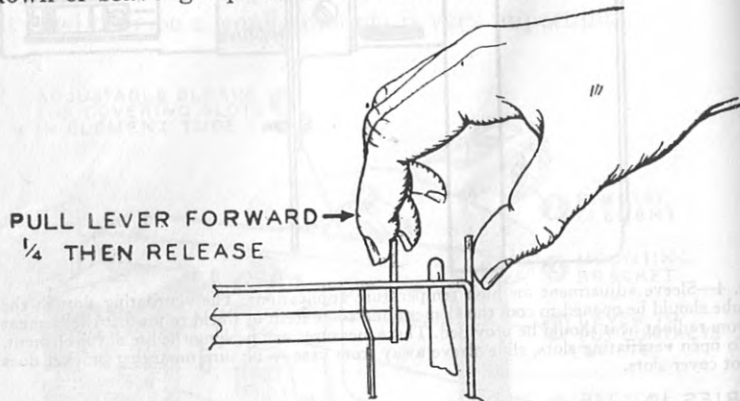
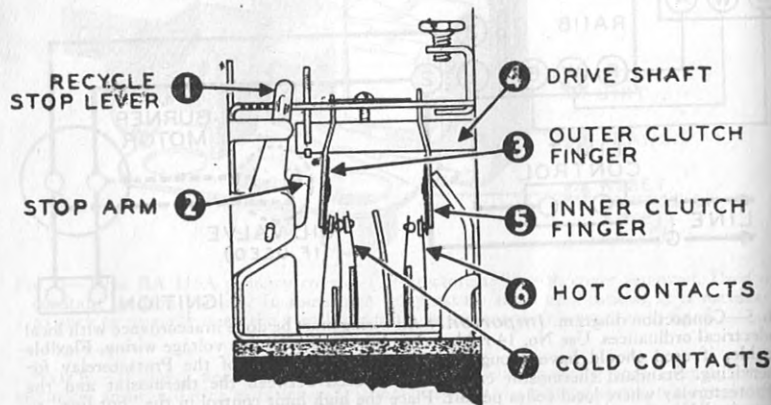

FIG. 6—Method of placing contacts "in step".
FIG. 7—Recycling time adjustment.
**Scavenger Timing.**—Allow the burner to run and watch outer clutch finger (3, fig. 7) as it moves outward. Clutch finger should move outward until it engages stop arm 2. The drive shaft 4, should continue to move outward after the clutch finger reaches the stop. This continued movement of the shaft (it need only be a small amount) is very important.
**To Check Safety Switch.**—With the burner running, close hand valve in oil supply line. (This should be equivalent to flame failure during normal operation of burner.) When the flame is extinguished, hot contacts 6, fig. 7, should open after a slight drop in stack temperature and stop the burner.
The burner should remain off until the stack cools enough so that the "cold contacts" 7, fig. 7 make.
Burner motor should start immediately. If burner do not start, place the primary control contacts in the starting position (see fig. 6). Burner motor should immediately start.
If it be necessary to place the contacts "in step" (fig. 6) in order to start the burner, see accompanying instructions and carefully check the complete operating cycle as outlined.
If the burner motor do not start when the contacts are placed "in step" (fig. 6) place a jumper across the red, white and blue terminals of the primary control. If the relay do not pull in (with current "on" and with cold contacts (7, fig. 7) closed, the primary control is defective and should be replaced.